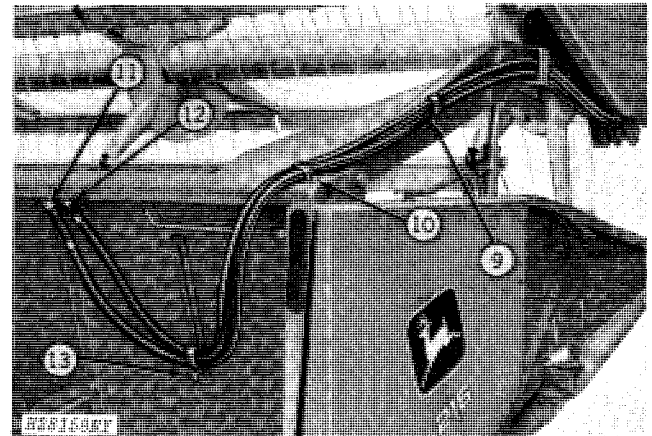

Fig. 65-Attaching Hose Clamps
9. Slip one hose clamp over both hoses and attach clamp to reel support arm with a 5/16 x 1-inch cap screw and lock nut (Fig. 65). Be certain clamp is positioned up as shown.
10. Slip the other hose clamp over both hoses and attach clamp to top of reel arm with a 5/16 x 3/4-inch cap screw and lock nut (Fig. 65). Be certain clamp is positioned as shown.
11. Connect hose from top port in reel drive motor to the shorter (inner) hydraulic line (Fig. 65).
12. Connect hose from bottom port in reel drive motor to the longer (outer) hydraulic line (Fig. 65).
13. Remove wing nut from clamp on platform backsheet (Fig. 65), and slip clamp over both hoses. Replace wing nut on clamp. Slide clamp with hoses down and then tighten wing nut.